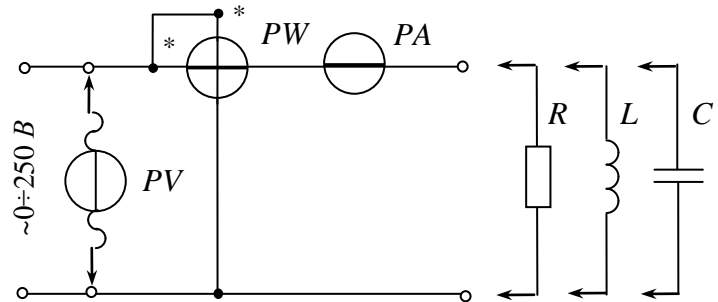

Fig. 3.11.
Measuring devices are: $PV(P\Omega)$ – multimeter $III4300$ to measure voltage, options: $<\sim>$, $<V>$, $<200\ V>$; to measure resistance, options: $<->$, $<R>$, $<2\ \kappa\Omega>$; PA – amperemeter $\Im 536$, limit of measuring $<0.5\ A>$; PW – wattmeter for measuring power, limit of measuring: $<150\ V / 0.5\ A>$. The way of measuring devices placement is shown in fig. 3.11.
1. To collect the circuit (fig. 3.11) and connect it to the clamps $<\sim>$ $<0 \div 250\ V>$. To place $LATR$ switch in position $<\sim>$, $0 \div 250\ V$.
The name and purpose of the work. Homework – the calculation of the circuit. Schematic diagram of the investigated circuit (fig 3.11). Tables 3.2, 3.3, 3.4. The substitutional schemes of coil and capacitor and calculations of their parameters. Vector diagrams for resistance, coil and capacitor. Conclusions.